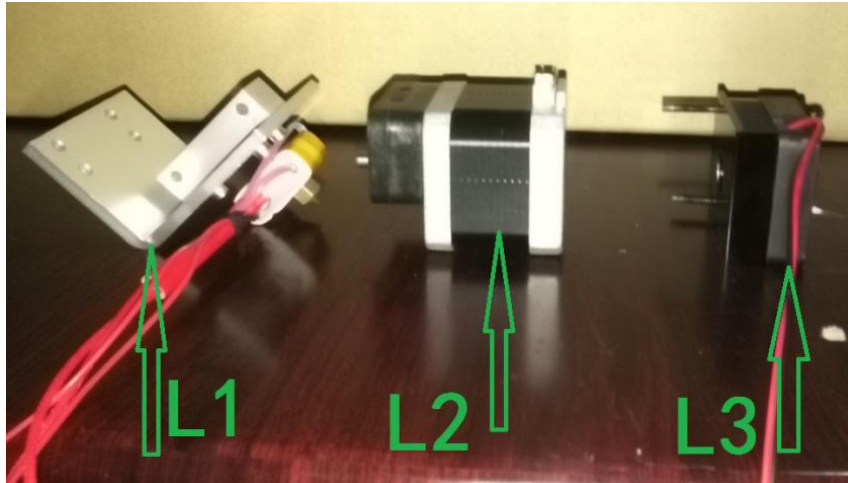
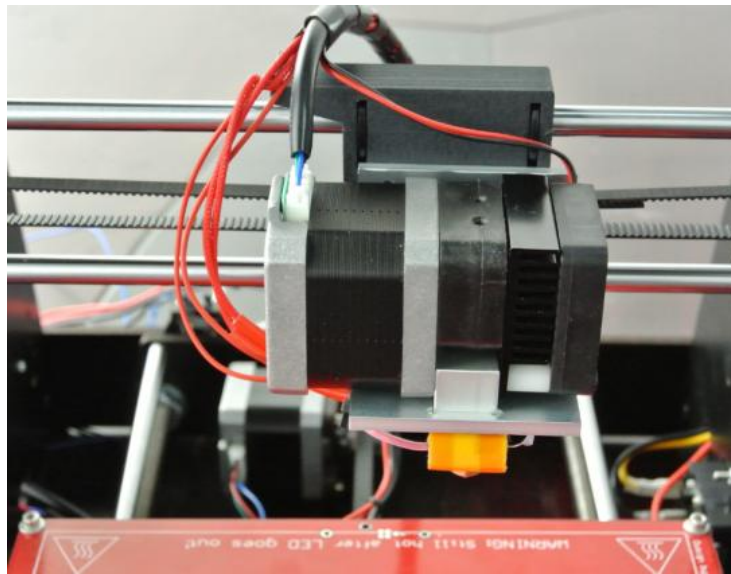

Figure 24
Figure 25
First unscrew cooling fan of nozzle, dismantle the L1, L2 and L3 parts of nozzle as shown in figure 24. **Install L1 part to the movable block in the middle of P assembly** with ⑥, ④ and ③. Please remember that first get screw ⑥ through the movable block in the middle of P assembly, then install the nozzle in the reverse order that these parts are dismantled, as instructed in figure 25. Connect motor of nozzle to port 10 of motherboard with long cable ⑱. Connect cooling fan cable to port 14 of motherboard 14. Connect power cable of nozzle to port 3 of motherboard. Connect temperature sensor of nozzle to the port 21 of motherboard.